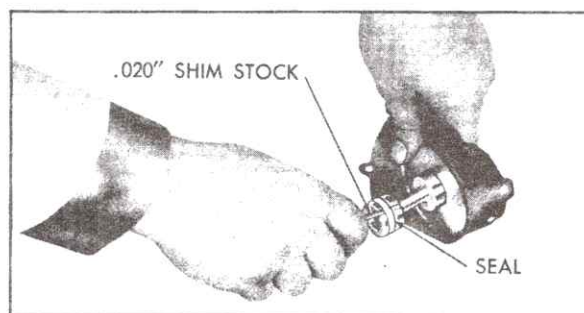

Fig. 4-12 Installing Seal
2. Install new seals using a piece of .020" shim stock, Fig. 4-12. Make sure shim stock has no sharp edges that may cut seal. Do not stretch seal more than necessary to install. Seals should be installed so they are not twisted.